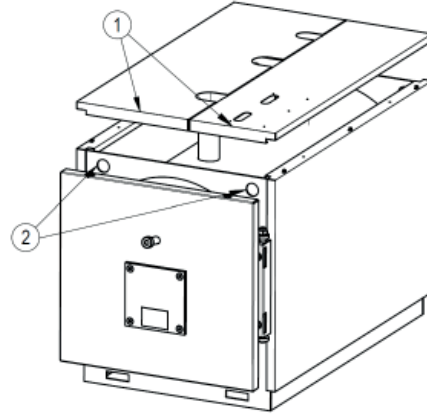

fig. 5
5.2.1 For models PREXTHERM RSW 92N+600N (Fig. 5)